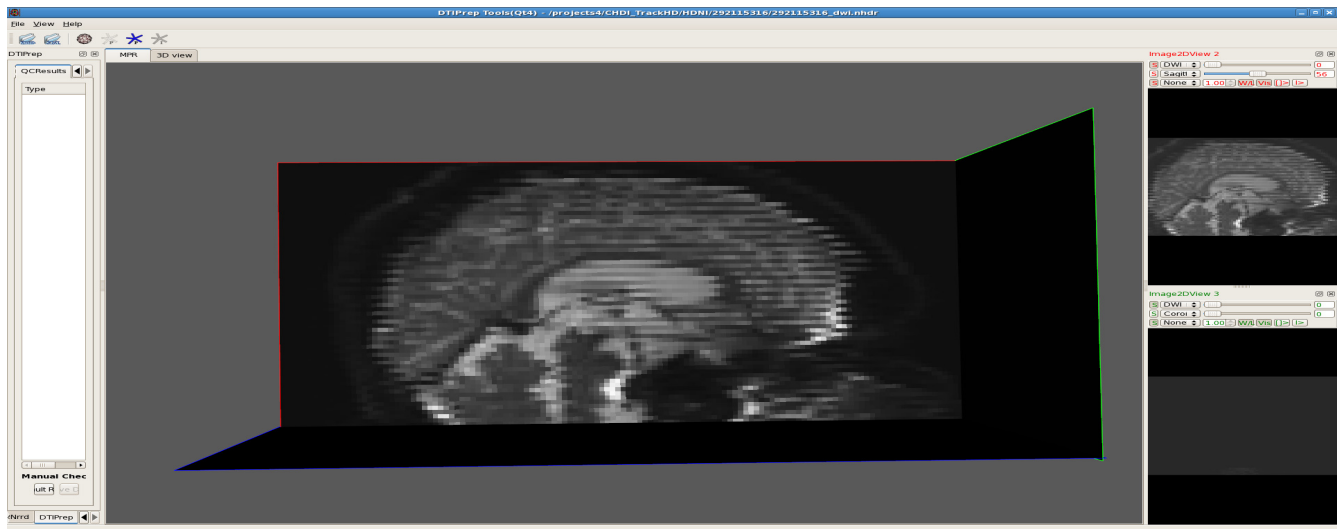
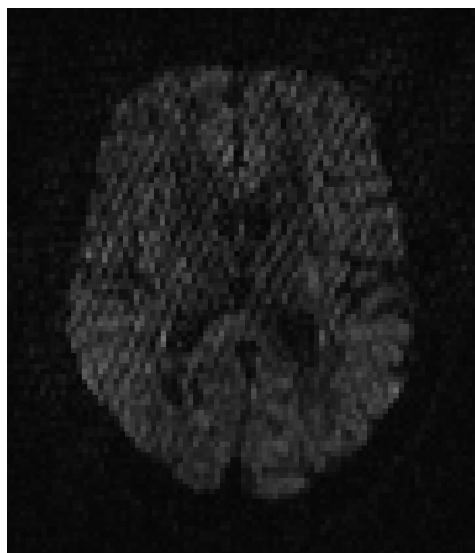

Figure 2.2 “Venetian Blind” Effect A clear example of the “venetian blind” artifact as seen in DTIPrep
Figure 2.3 (left) “Checkers” artifact shown in an axial slice in a DWI gradient
- iii. Document any perceived image quality issues; i.e. “venetian blind” effect/horizontal stripes (Fig. 2.2), “checkers” effects - particularly in axial views (Fig. 2.3), motion artifacts, geometric artifacts, “bar” artifacts, distortion, “Z-stripe” artifacts, gradients with intensity differences between slices (Fig. 2.6), “cartoon/blur” artifacts (Figs. 2.12-13) and any other anomalies.